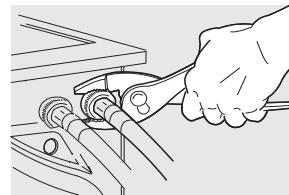

Fig. 4
- Tighten by hand until snug. Then tighten each supply connection another 2/3 turn with pliers. **Do not cross thread or overtighten these connections.** (Fig. 4).